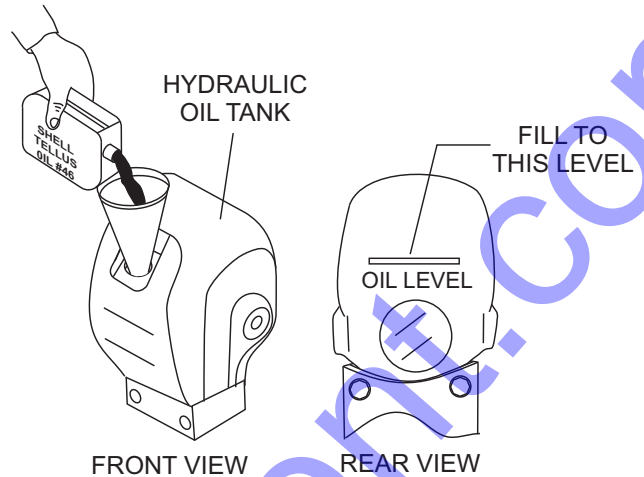

Figure 27. Hydraulic Oil Maintenance
2. Using a funnel, add **Shell Tellus Oil #46** or equivalent to the hydraulic oil tank through the oil filler port (Figure 27). Oil tank capacity is 50.7 fl. oz (1500 cc).